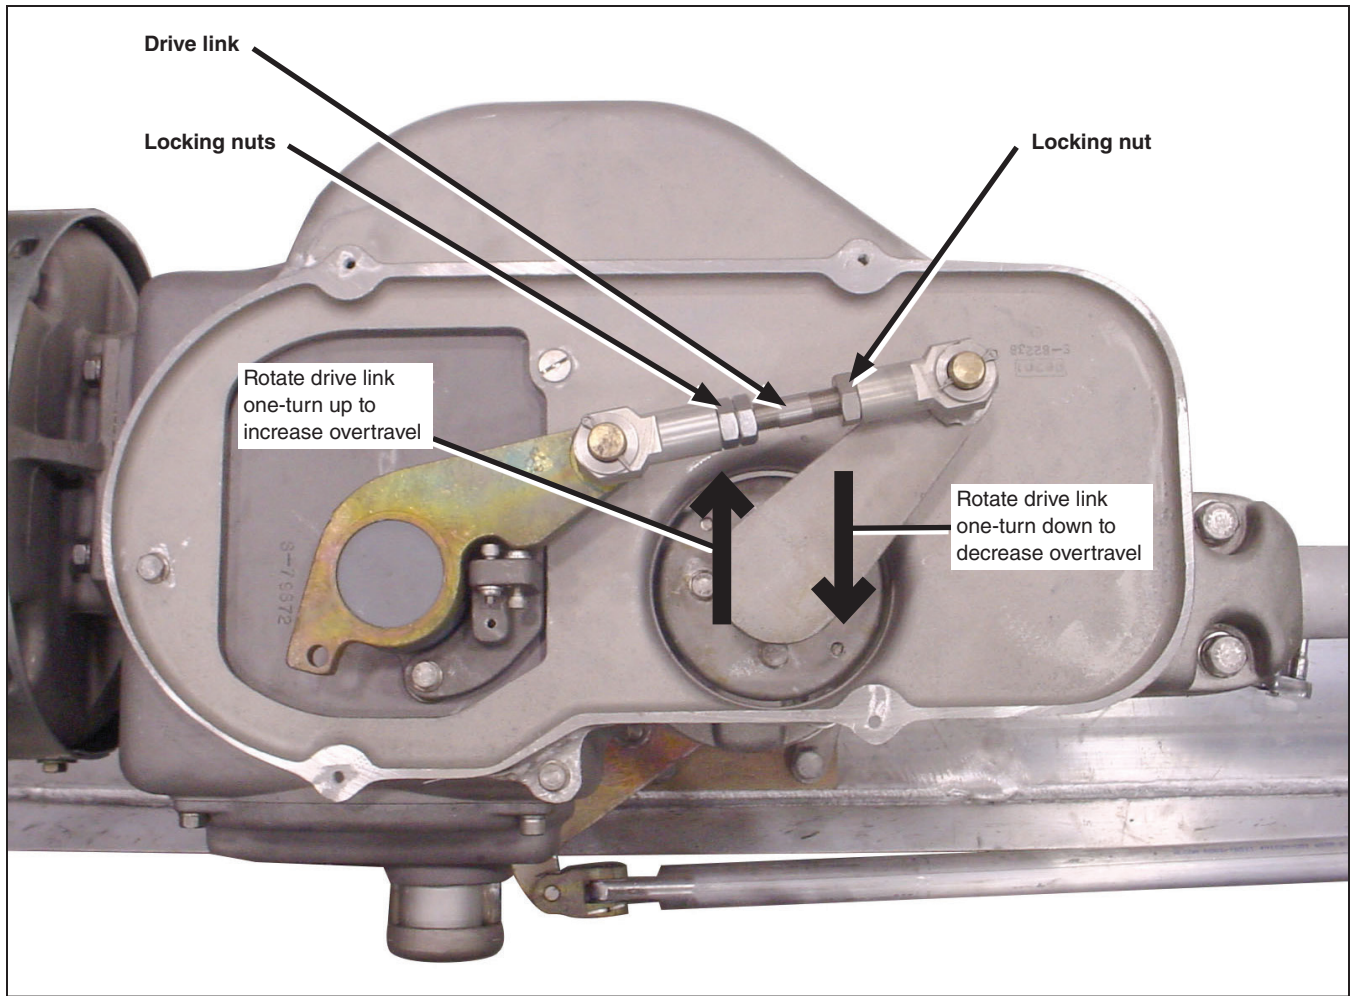

Figure 8. Overtravel adjustment on center-break style circuit-switchers.
- STEP 3.** **To increase overtravel:** Loosen the locking nuts on the drive link and increase the effective length of the drive link by turning it one turn in the direction shown in Figure 8 on page 13.
To decrease overtravel: Loosen the locking nuts on the drive link and decrease the effective length of the drive link by turning it one turn in the direction shown in Figure 8 on page 13.